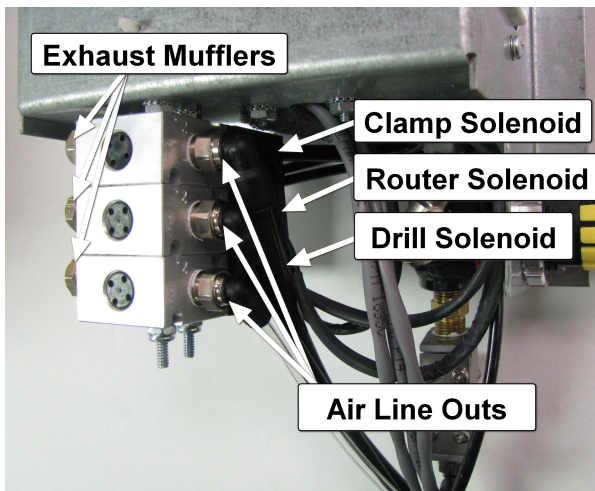

Fig 11a
2. Remove the air out line and the exhaust muffler from the router solenoid and press the override button for several seconds to flush the solenoid. Air should flow through the solenoid. Gently open the Router Feed Rate valve (located on the rear of the machine next to the air inlet) fully counter clockwise. Press the override switch several more times for several seconds to thoroughly flush the solenoid. See Fig 11a and 11b.